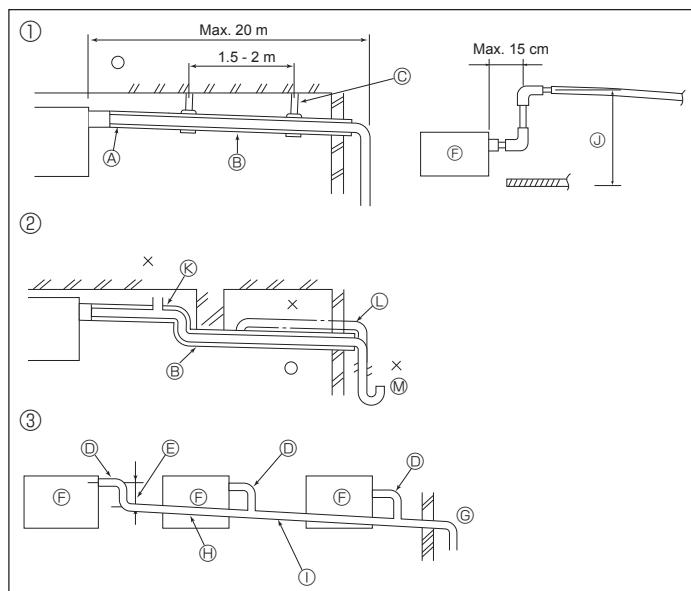
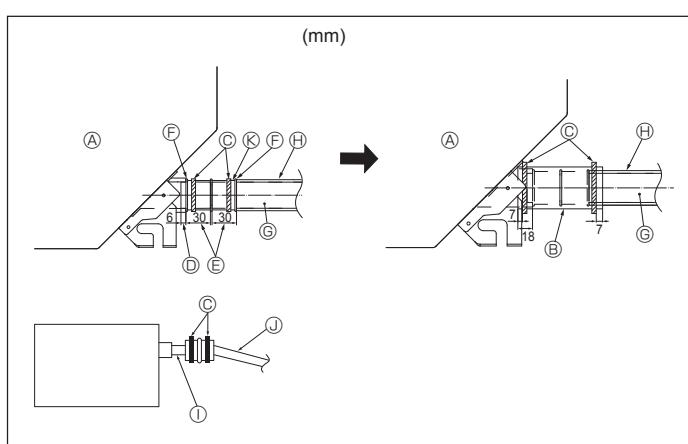

Fig. 5-1
Fig. 5-2
5.1. Drainage piping work (Fig. 5-1)
①	Correct piping	⑥	Make the piping size large for grouped piping.
②	Wrong piping	⑦	Downward slope (1/100 or more)
③	Grouped piping	⑧	O.D. ø38 PVC TUBE for grouped piping (9 mm or more insulation)
⑨	Up to 85 cm
⑩	Air bleeder
⑪	Raised
⑫	Odor trap
⑬	Main unit
1. Connect the drain socket (supplied with the unit) to the drain port. (Fig. 5-2) (Fix the tube using PVC adhesive then secure it with a band.)